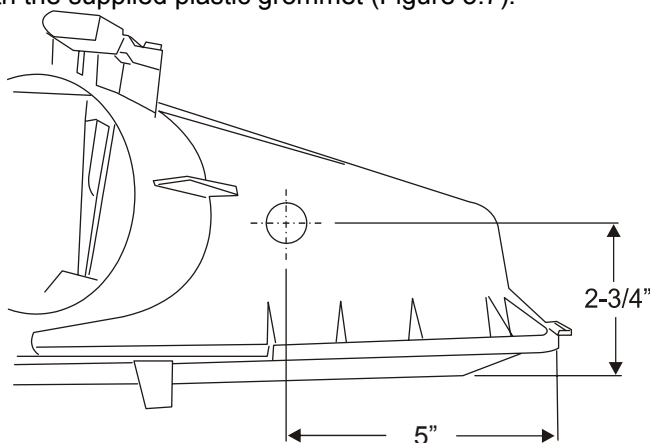

Figure 3.7
- ☐ Drill an 11/16 inch hole in the air box and install the filter gauge into the new hole. Plug the original hole that held the filter gauge with the supplied plastic grommet (Figure 3.7).